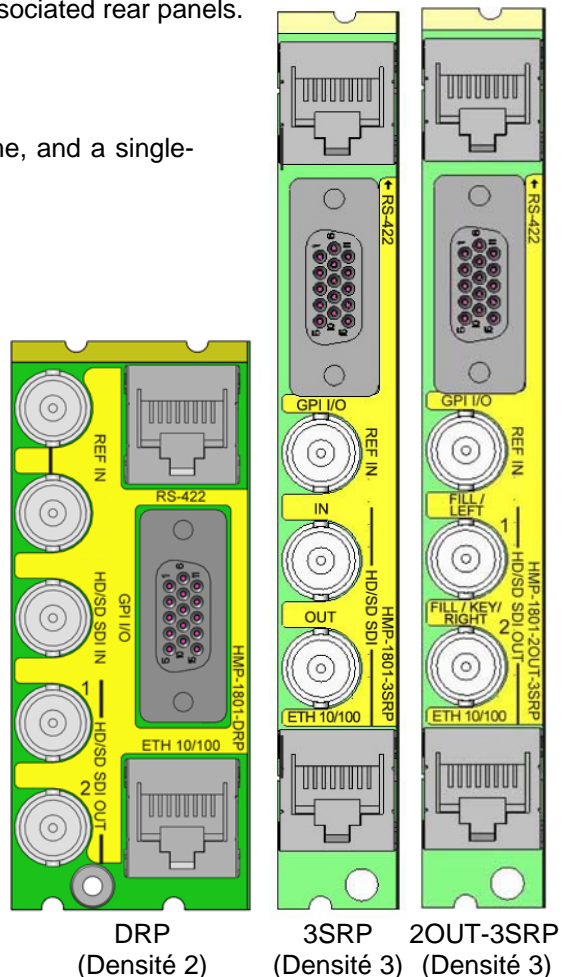

Figure 2.1 Rear Panel Connectors
- Rear Panel: HMP-1801-DRP or HMP-1801-3SRP or HMP-1801-2OUT-3SRP (see figure 2.1)